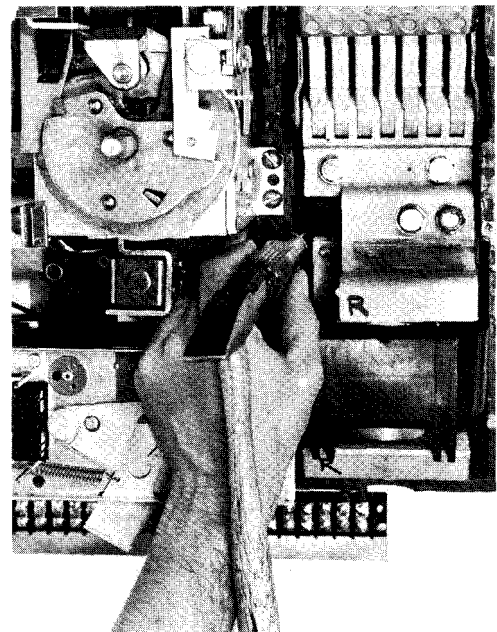

Fig. 5 View showing knockout method
- Remove the left knockout in right pole of the breaker base, using screwdriver and hammer as shown in Fig. 5.
- Remove right knockout in left pole of breaker base, using method shown in Fig. 5.